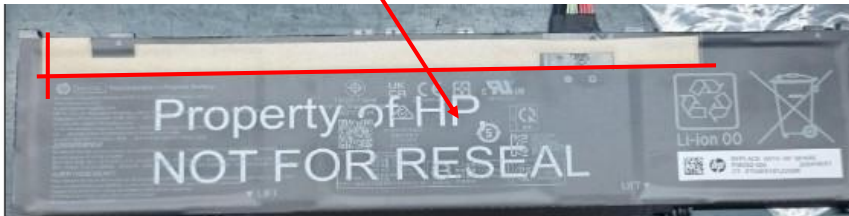

Figure 1
1.  Tear off the conductive cloth (6054B3104101) from the top of the battery (Figure 1).